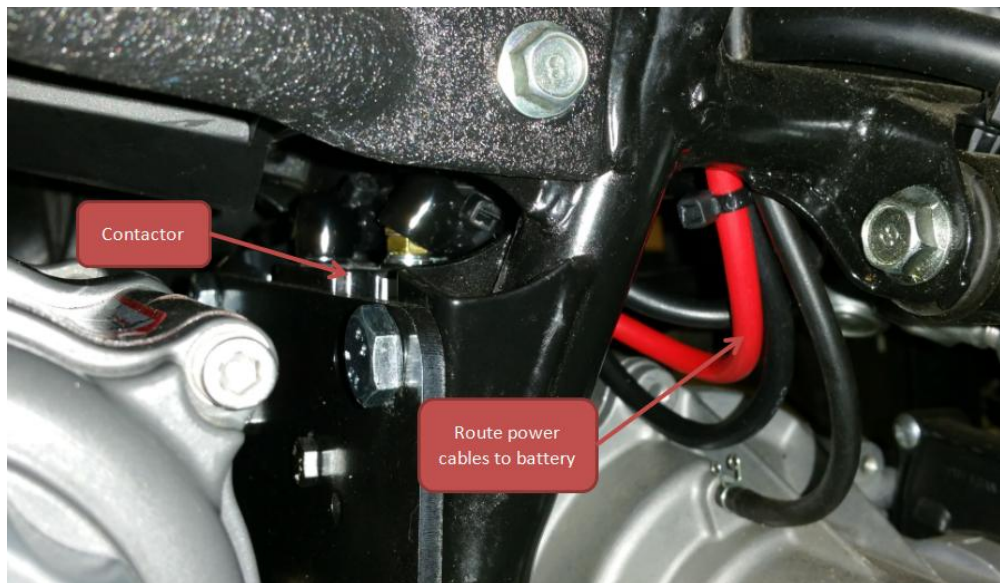

Figure 3
- 6) The majority of ATV contactors can be mounted to the reverse side of the winch mount. Attach using the hardware included with your contactor as shown in Figure 3.